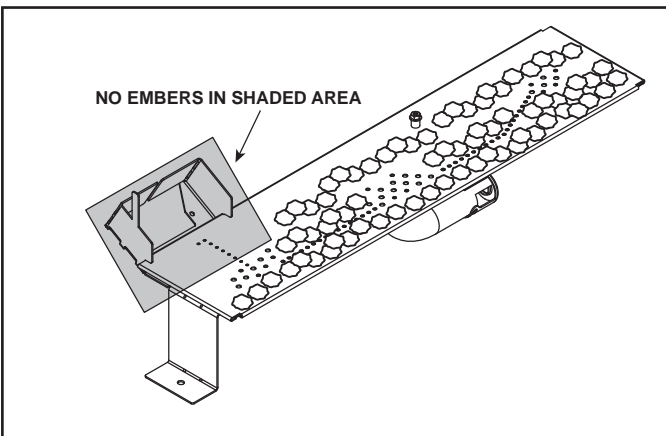

Figure 11.1 Placement of Embers
- Embers **CANNOT** be placed in pilot bracket area. See Figure 11.1. Care should be taken not to cover the lighting trail of ports (from back to front).
- When placing Glowing Embers® onto the burner care should be taken so that the ports are not covered. Place the dime-size ember pieces near the port holes in the burner top (see Figure 11.1). Failure to follow this procedure will likely cause lighting and sooting problems..